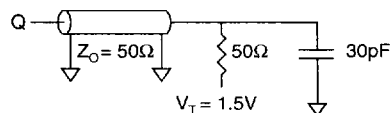

Fig. 1 OUTPUT LOAD EQUIVALENT
Output load	See Figures 1 and 2
5. Test conditions as specified with the output loading as shown in Fig. 1 unless otherwise noted.